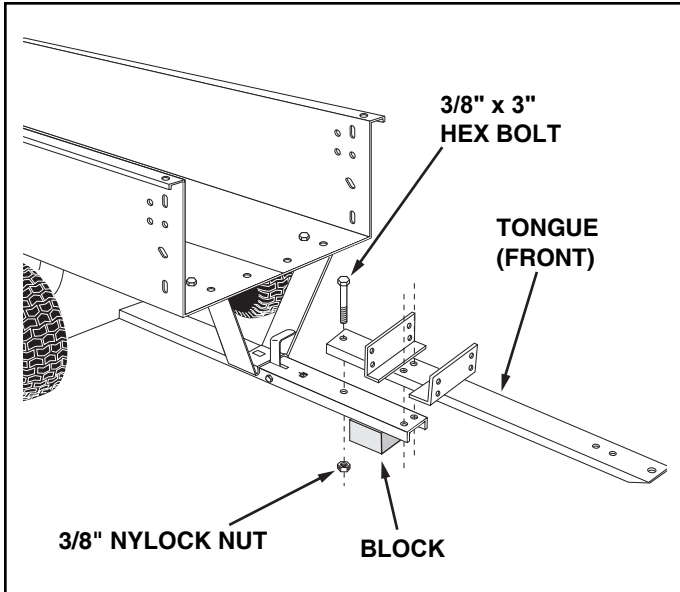

FIGURE 8
14. Assemble the front tongue on top of the rear tongue using three 3/8" x 3" hex bolts and 3/8" nylock nuts. See figure 8.